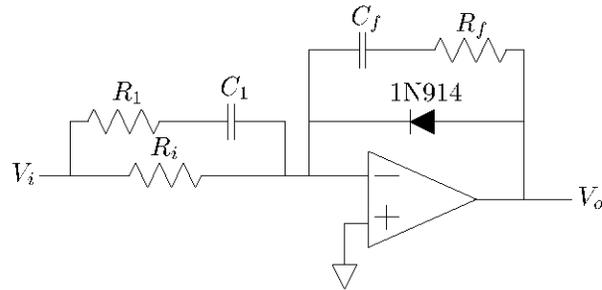

Figure 3: One possible compensator topology.
2. Consider the circuit in Figure 3.